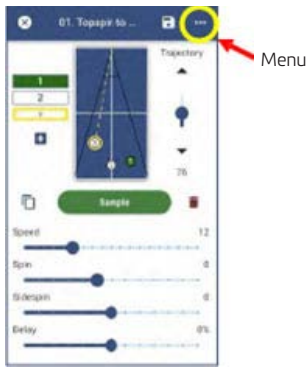

Figure 3-42
2. From the Drill edit screen, press the drop-down Menu button [...] from the top-right corner. (Figure 3-42)